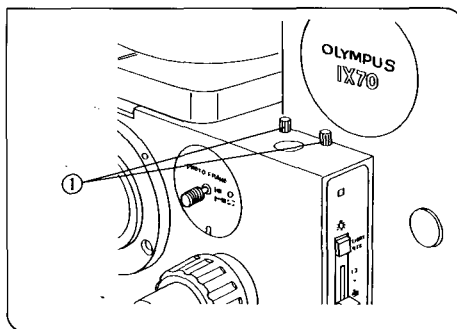

Fig. 21
(Figs. 21 – 28)
- ⊙ The turret insert centering wrenches ① provided with the condenser may be conveniently stored in the storage holes provided on the microscope frame. (Fig. 21)